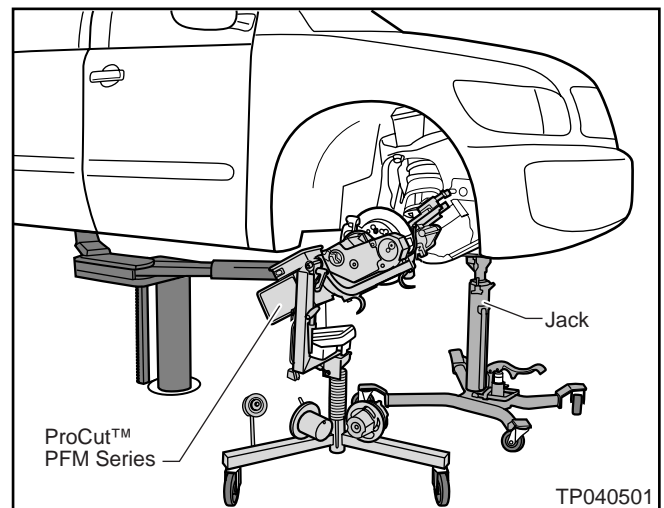

Figure 3
- On some hoists, the vehicle may wobble a little while using the on-car brake lathe. To prevent this wobble, stabilize the vehicle with a jack or jack stand as shown in Figure 3.